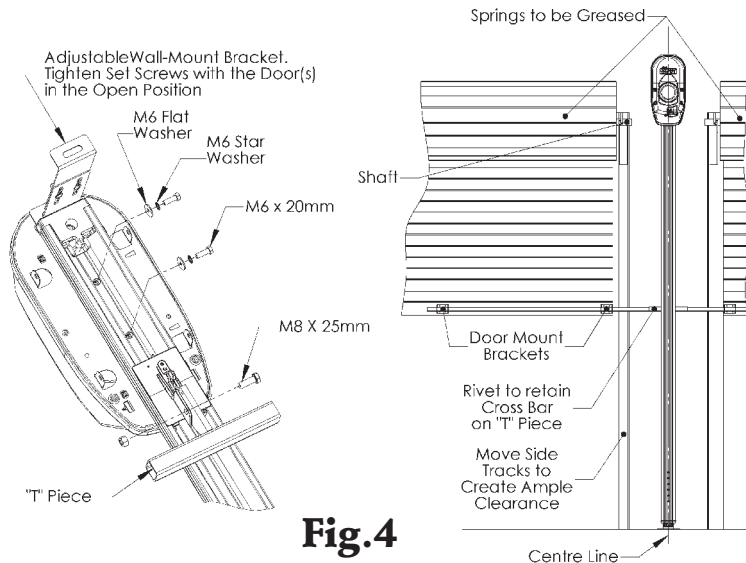

Fig.4
2. With the open side of the Drive Strut assembly upwards (chain visible), align the motor shaft with the sprocket and fit the strut so that the motor shaft passes through the hole in the strut. Secure the strut to the power-head with M6 bolts in the upper and lower positions. See fig. 4 on Page 12.